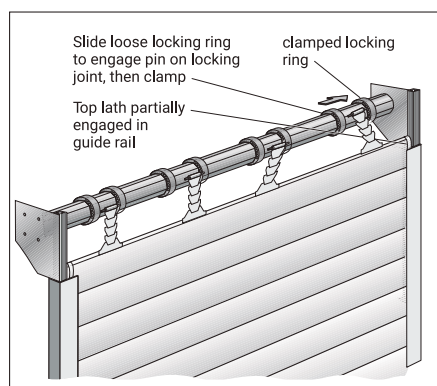

Figure 16
- 7.3 There are a pair of barrel rings positioned on the barrel for each locking joint, the number of barrel rings will vary according to the curtain width. Clamp the outer most rings to the barrel app 150mm in from each end and equally space the other pairs as shown in (Figure 16). (There are 2 rings for each locking joint for the 55 range and 1 ring for each barrel ring for the 77 range) NB: Take great care when drilling these holes and avoid drilling into the motor.
Slide the loose rings to engage the other end of the locking joint pin and secure the loose barrel ring to the barrel using the fixing supplied. (see Figure 16).